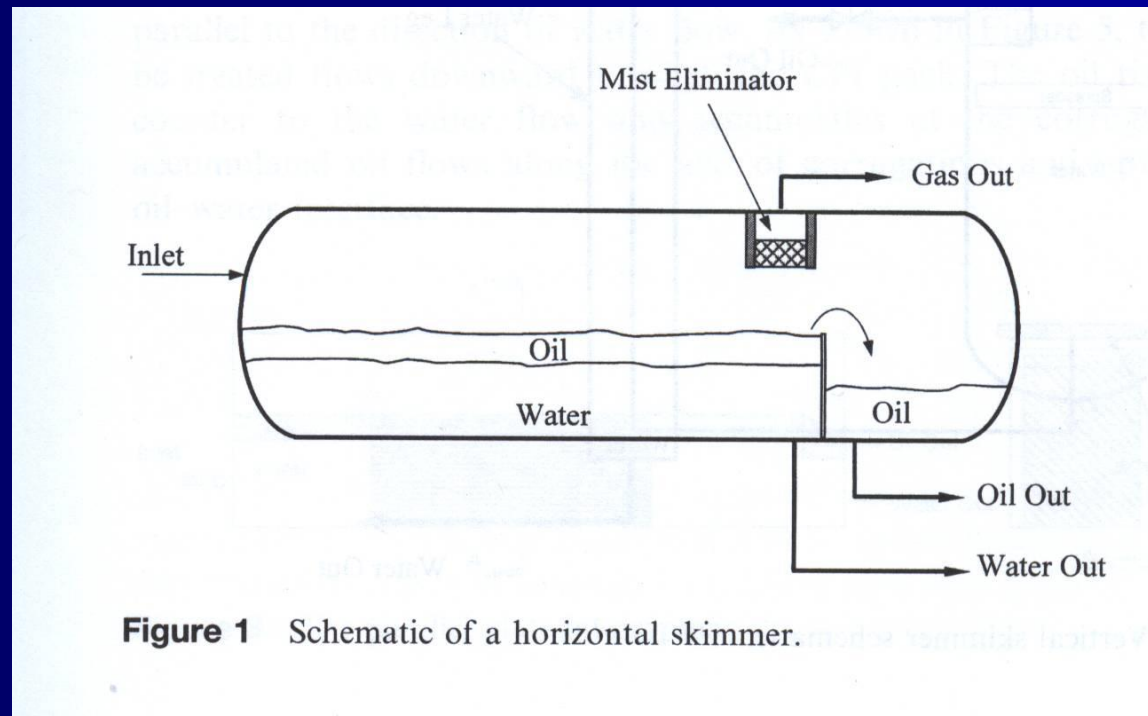

Figure 1 Schematic of a horizontal skimmer.
- Skimmers can be either horizontal (Figure 1) or vertical in configuration